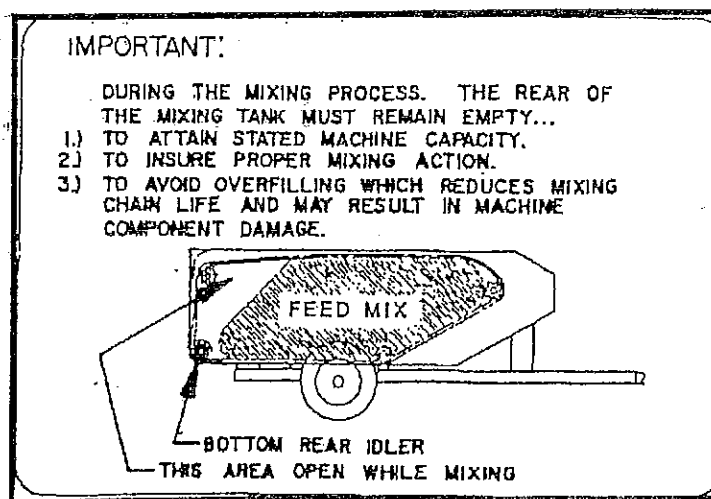

Figure 7
The addition of grain and/or supplements may be added at any time that is convenient to the operator. It is recommended that grain and supplements be in the machine before adding silage to insure maximum distribution and a minimum of mixing time. Approximately 5 minutes is required for a thorough mixing, although this may vary with feeds and under different conditions. During the mixing process, a portion in the rear of the machine will be empty. This is normal and essential to the mixing action of the silage-mixer. It is required that the lower rear idler sprockets be visible at maximum loaded conditions. (See Figure 7).
1. Never fill machine in the rear only, especially if disconnected from the tractor, as the uneven weight will cause the box to become unbalanced and up-end. Also, if too much silage is to the rear when the mixing apron starts, some spillage will occur. Make sure scraper and guard are in position to prevent a large slug from going between the apron slats and the back (see figure 7).
During the mixing process, a portion in the rear of the mixing tank will remain empty. This is normal and essential to the mixing action of the Silamix silage-mixer (see figure 7).
When filling and mixing, avoid overfilling the mixing tank. The mixing tank for the Model 800B Silamix has a capacity of 175 bushels (approximately 3 tons) of silage and the mixing tank for the Model 850B Silamix has a capacity of 250 bushels (approximately 4 tons) of silage. Capacities listed are for a properly filled tank with lower rear idler showing during mixing (see figure 7).